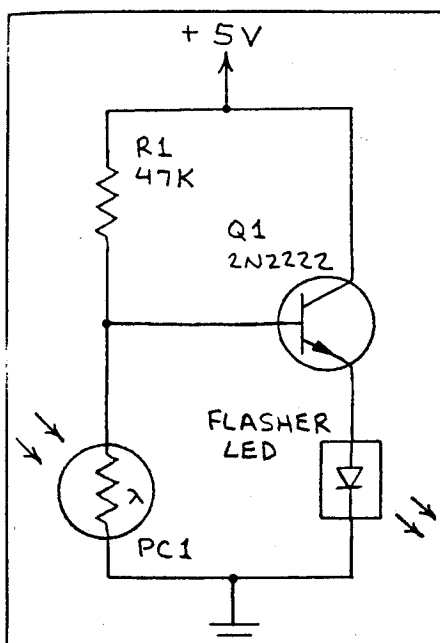

Fig. 13. A dark-activated LED flasher for darkroom warning use.
• **Dark-Activated LED Flasher.** A simple way to actuate a flasher LED with a photoresistor is shown in Fig. 13. This simple circuit makes a handy warning light for a darkroom. The flasher LED installs near the outside of the darkroom's door. The remainder of the circuit installs anywhere else inside the darkroom. With this setup, the flashing LED warns outsiders that the lights in the darkroom have been extinguished. For this application to be practical, it is necessary to install an on/off switch inside